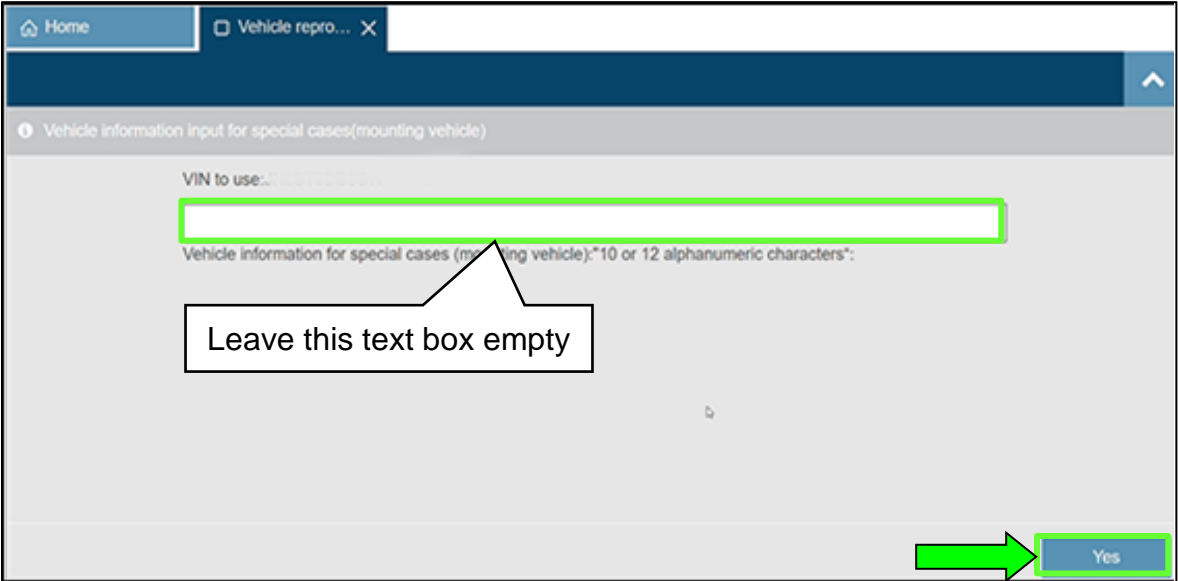

Figure 14
- 15. If the screen shown in Figure 14 is displayed, continue to step 16. If the screen shown in Figure 14 is NOT displayed, skip to step 19 on page 12.